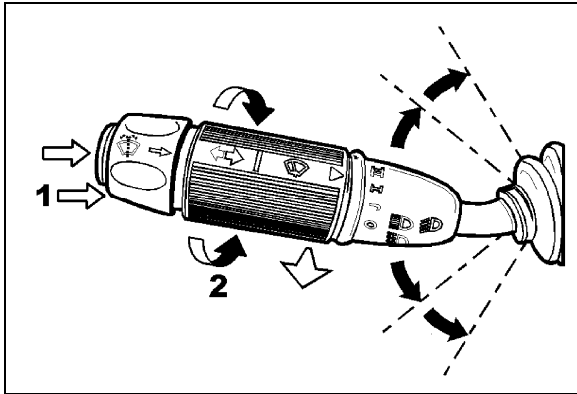

FIGURE 34: MULTIFUNCTION LEVER
Depress the upper windshield wiper switch located on the dashboard L.H. side to the first position for intermittent wiping, and to the second position for continuous wiping (item 1, fig. 34).
Turn the multifunction lever forward to activate lower windshield wipers (item 2, fig. 34). The first position operates the wipers at low speed and the second position operates the wipers at high speed. Turning the lever backwards will operate the wipers in the intermittent mode.
To activate the upper windshield washer pump, depress and hold the rocker switch on dashboard L.H. side (item 2, fig. 34). The upper wipers will come on automatically and will shut off a few seconds after releasing the rocker switch. The lower windshield washer pump is electrically operated and is controlled by a washer control ring on the multifunction lever (item 1, fig. 34).